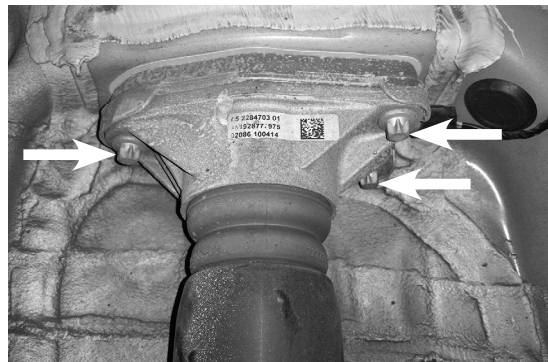

Fig. 3
1. Unclip the electronic damping control connector at the top of the shock. Support the hub with a jack. Loosen and remove the upper shock bolts (Fig. 3).